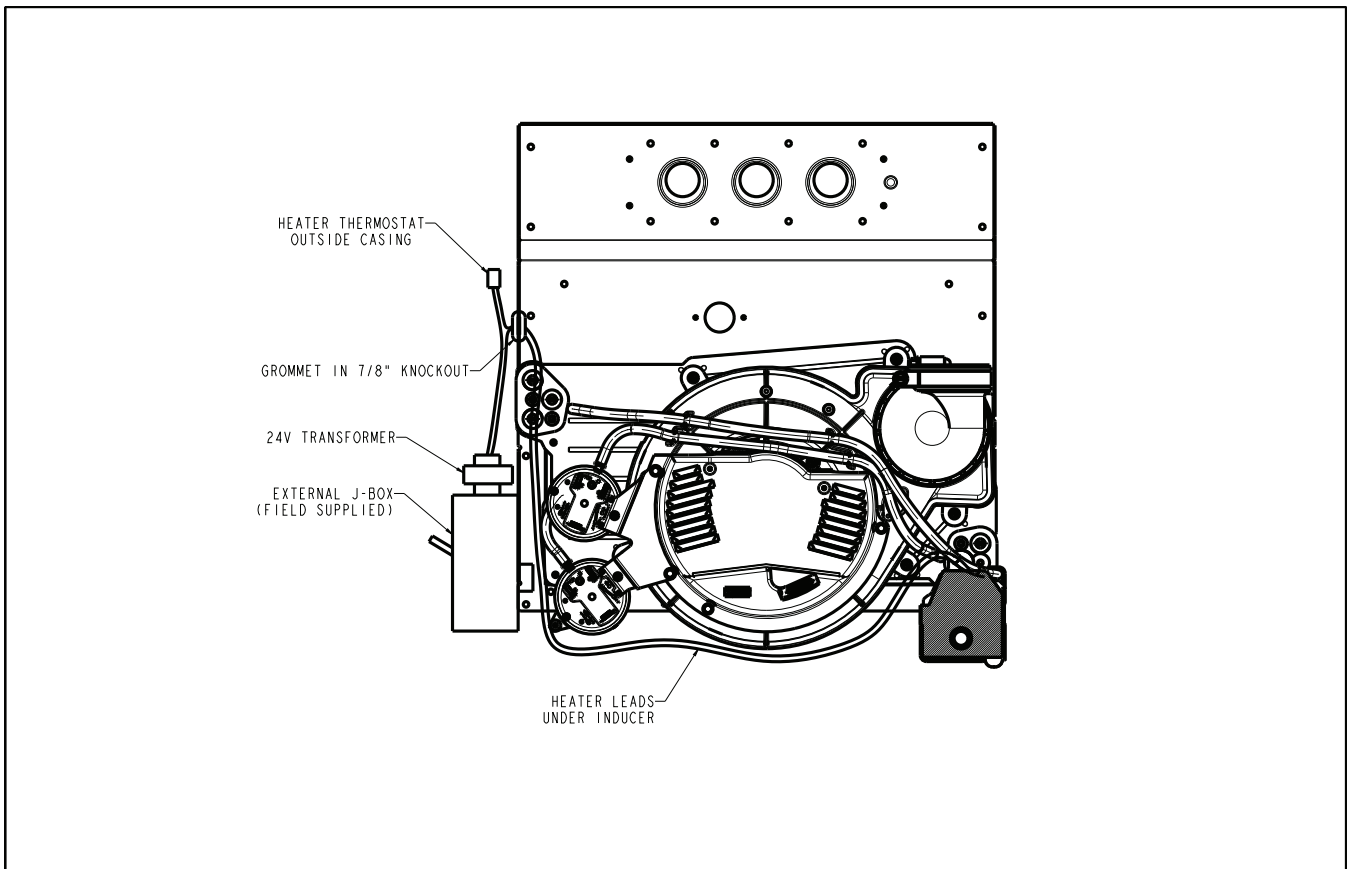

Fig. 2 - Wire Routing
7. Install the round grommet included in the kit in the 7/8-in. knockout. See Fig. 2.